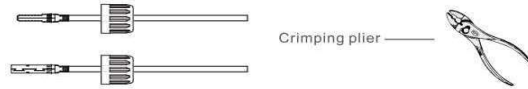

Figure 2.13 Crimping clamp crimping metal terminal
- 2.Crimp the metal terminal with crimping pliers, as shown in figure 2.13.